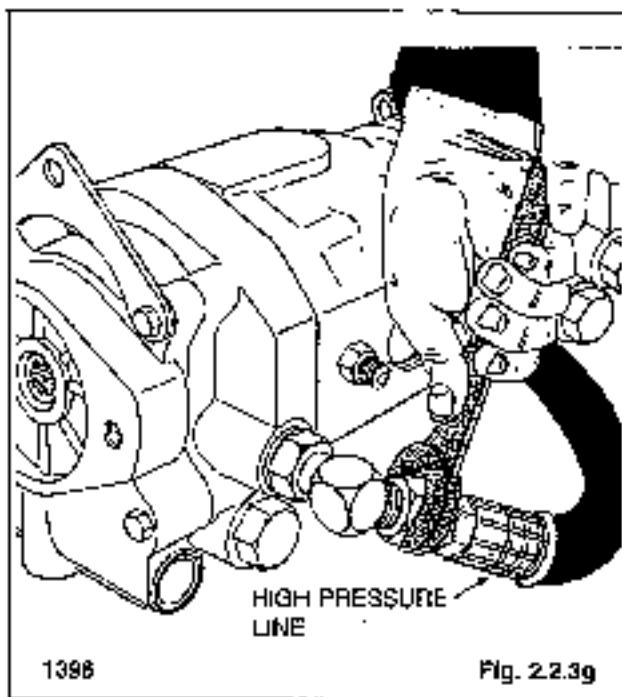

Fig. 2.2.3g
10. Disconnect and remove the high pressure lines between the front pump and torque motor (fig. 2.2.3g). If the rear pump is to be removed, disconnect the rear pump high pressure lines. If the high pressure lines are rubber it is only necessary to disconnect them at the pump end. Plug the pump and motor ports and cap both ends of the high pressure lines.